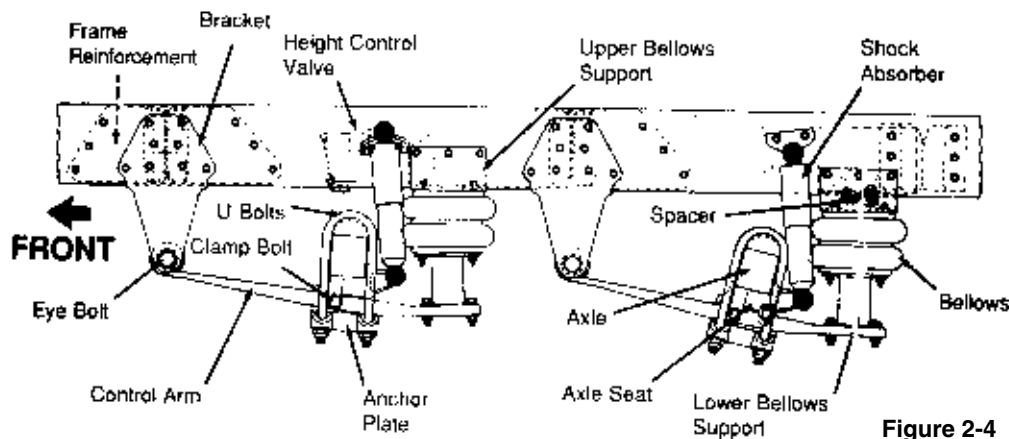

Figure 2-4
- Leaking shock absorbers (Figure 2-4),
- Air suspension systems that are damaged and/or leaking (Figure 2-4),